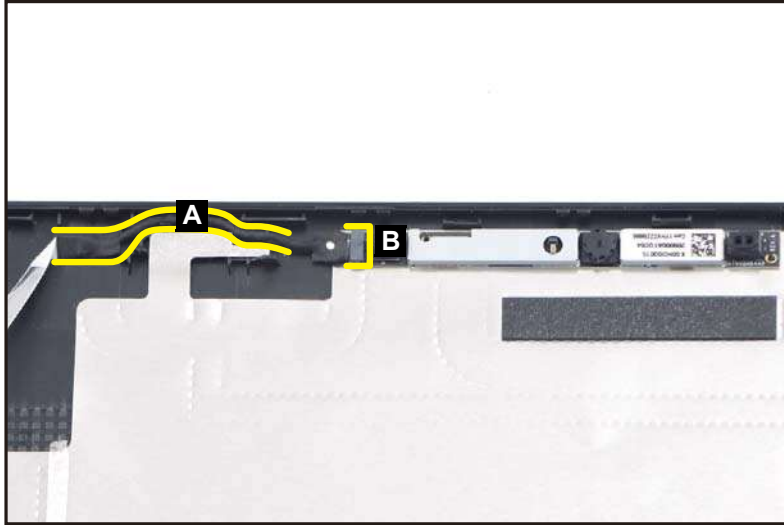

Figure 3-72. Replacing the LCD Cable
1. Connect the LCD cable (A) to the camera module connector (B) (Figure 3-72).
2. Route the LCD cable through the cable guides as shown in Figure 3-72.